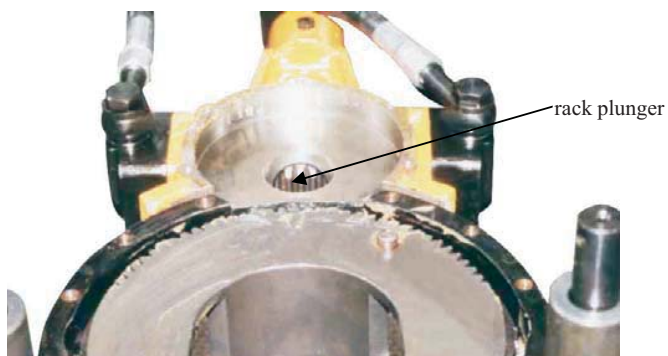

Fig21
Remove the upper cover of the backup tong (12AB-1), duplex gear (12AB-9) and cylinder cover (12AB-100), push out the rack plunger, install Yx seals at two ends of the cylinder liner, then push rack plunger to the center of cylinder liner, finally install duplex gear and other parts when the jaw plate frame faces the opening of the backup tong. (Fig. 21)
9.1.1 High Pressure Hose (See Fig 21)
9.1.2 Quick Coupler (see Fig 21)